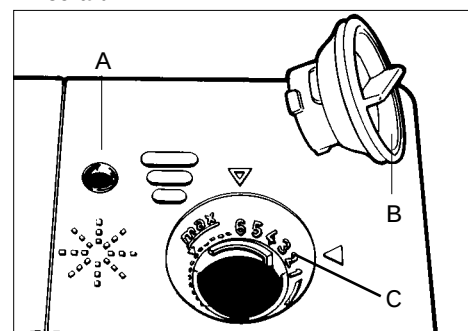

fig. 5
- Open the rinsing agent reservoir (see fig. 5) on the inside of the door, next to the detergent reservoir.